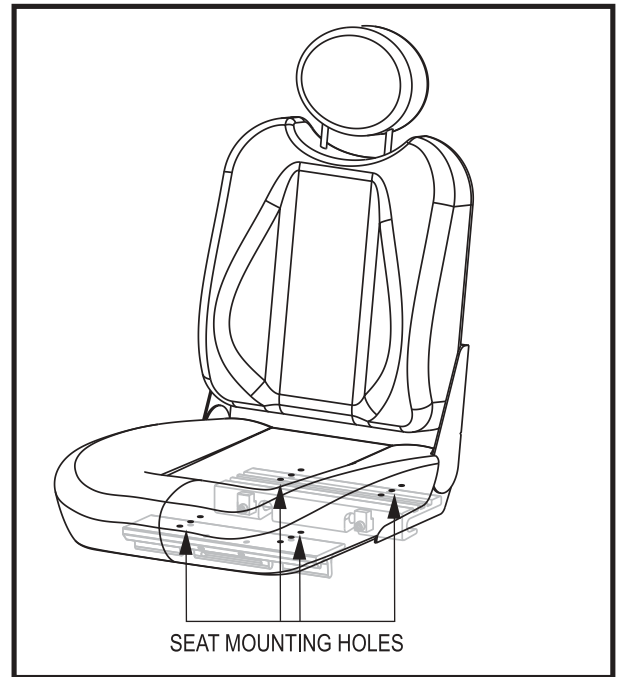

Figure 17. Seat Position (Extrusion Location on Contour Seat)
4. Remove both extrusions from the bottom of the seat. See figure 17.
5. Reposition the extrusions on a different set of mounting holes. You must move both extrusions the same number of holes either forward or rearward. See figure 17.